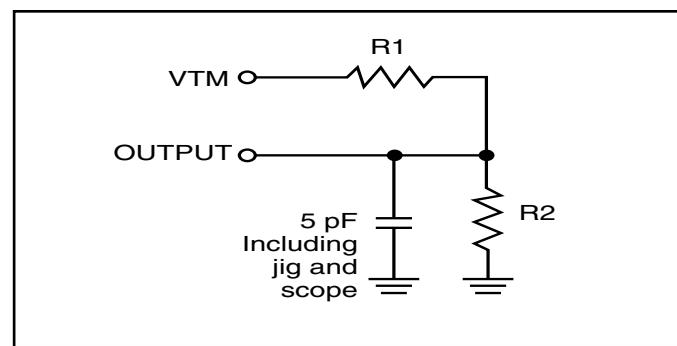

Figure 2.
2. Tested with the load in Figure 2. Transition is measured ±500 mV from steady-state voltage.